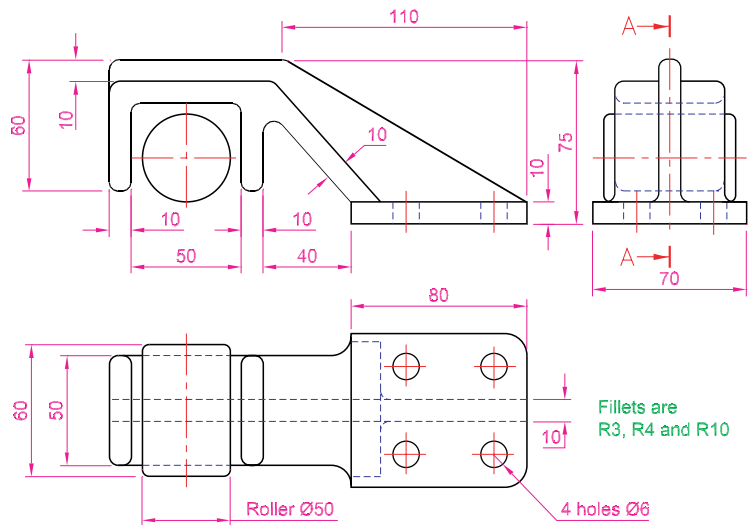

Fig. 8.21 Exercise 2
2. Construct the three-view orthographic projection in Fig. 8.21 to the given dimensions with the front view as the sectional view A-A.